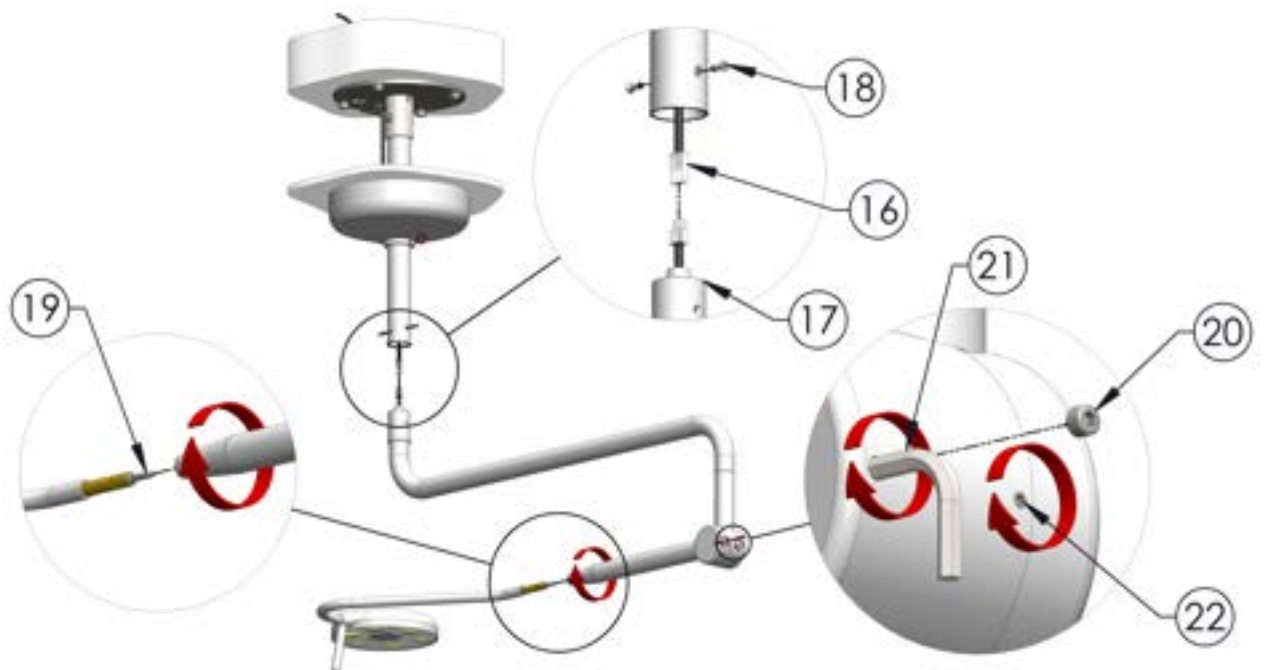

Fig. 14.0
16. Lift Phantom arm into place, and engage the 24V plugs as shown in Fig. 14.0.
17. Insert the arm bearing into the ceiling tube (taking care to align the threaded holes on the bearing sheath with the countersunk holes on the ceiling tube), as shown in Fig. 14.0.
18. Insert the countersunk-head set screws as shown in Fig. 14.0.
19. Optional - remove or replace the lamp head - twist the conical end of the arm and pull the head and s-bend section, as shown in Fig.14.0.
20. Unscrew the end cap for access to the spring balance adjustment, as shown in Fig. 14.0.
21. Adjust the spring balance: using a 4mm allen key, adjust the screw inside the knuckle. Clockwise/ Tightening the screw will cause heavier engagement of the spring - this will improve 'head droop'. Anticlockwise/loosening the spring balance will fix a 'rising head' issue, as shown in Fig. 14.0.
22. Friction adjustment: Clockwise/tightening this screw will apply more friction to the arm mechanisms. The arm will require more force to move, and will not move as far with the momentum of an individual movement. This should be set to the staff preference, as shown in Fig 14.0.